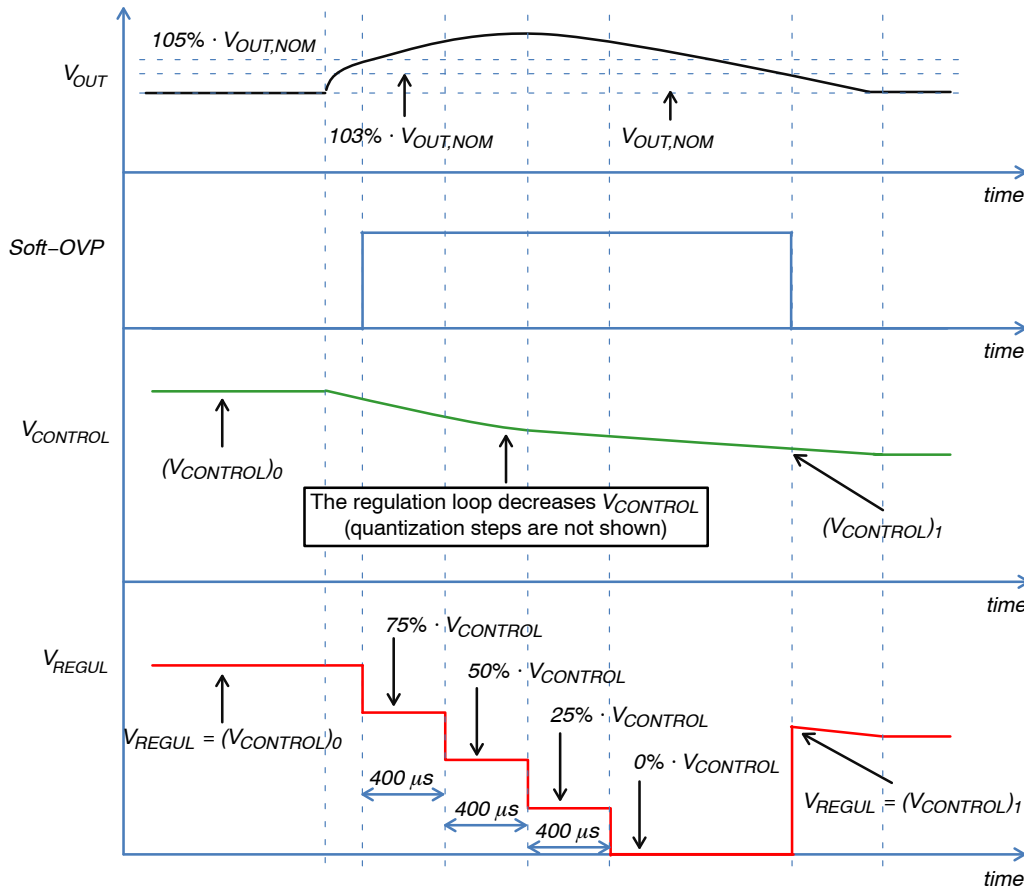

Figure 14. Soft-OVP
- Then, enters a soft-stop sequence to gradually reduce the line current and thus minimize the risk of audible noise. If the output voltage reaches the soft-OVP level (105% $V_{out,nom}$), the protection trips and the 4-step stop illustrated by Figure 14 takes place.